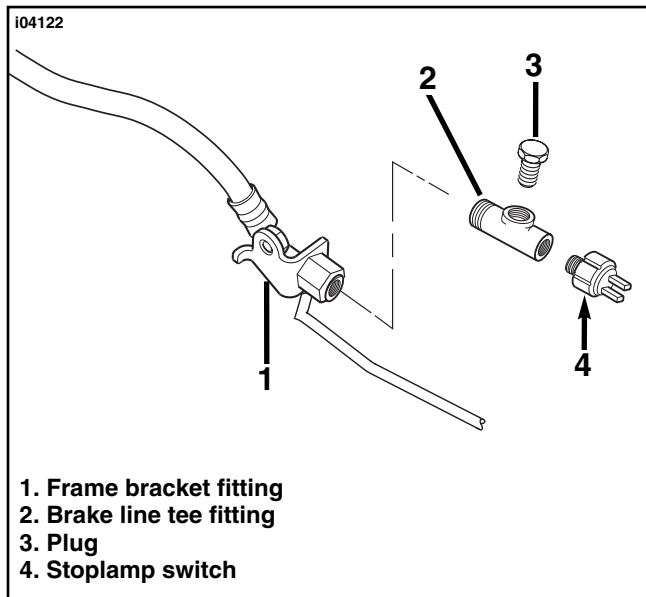

Figure 15. Modifying Brake Line Connection
1. See Figure 15. Carefully remove stoplamp switch from existing fitting at frame bracket. Clean threads.
2. See Service Parts Illustration. Obtain new Brake Line Tee Fitting (8) from kit. Coat male threads of fitting with Loctite Pipe Sealant with Teflon. Thread tee into frame bracket fitting and tighten so that right angle opening is vertical (facing upward).
4. See Service Parts Illustration. Obtain Plug (9) from kit and save. If sidecar is not being attached, install plug in the right angle opening.